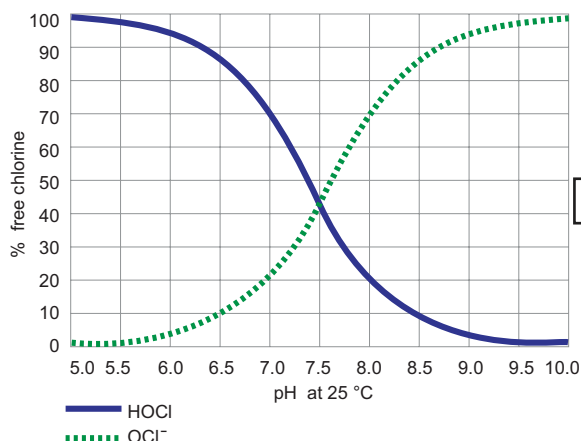

Figure 1
- Remove applicable sensor access plugs from the flow cell (Section I, Figure 1). Holding the 3-2650-7 (159 001 670) or 3-2750-7 (159 001 671) electronics inverted open the DryLoc® connector by turning the upper locking ring ¼-turn counter-clockwise, insert the electrode facing up. Turn the locking ring ¼-turn clockwise to lock the electronics in place. The mechanism will “click” when it is locked. Install the complete assembly into the flow cell and insure the key on the electrode aligns with the key slot on the flow cell.
Various forms of chlorine are used to disinfect water. Each form of chlorine has benefits and limitations which help determine the specific application. The predominant categories used in disinfection are Free Chlorine, Total Chlorine and Chlorine Dioxide. Free Chlorine is the sum of chlorine gas ( $\text{Cl}_2$ ), hypochlorous acid ( $\text{HOCl}$ ) and hypochlorite ( $\text{OCl}^-$ ). Above pH 4.0 all of the molecular chlorine is converted to  $\text{HOCl}$  and  $\text{OCl}^-$ . Hypochlorous acid is a more potent disinfectant than hypochlorite and exists in a pH dependent equilibrium as shown in Figure 1.
Amperometric free chlorine sensors measure only hypochlorous acid. As noted in the text above and in Figure 1, the ratio of hypochlorous acid and hypochlorite is pH dependent. In many applications the process pH is relatively stable and no correction is needed. However, where the pH of the water changes significantly, accurate free chlorine measurement requires pH compensation. With the addition of a pH sensor, the Signet 8630 transmitter will automatically compensate the free chlorine reading for changes in pH.